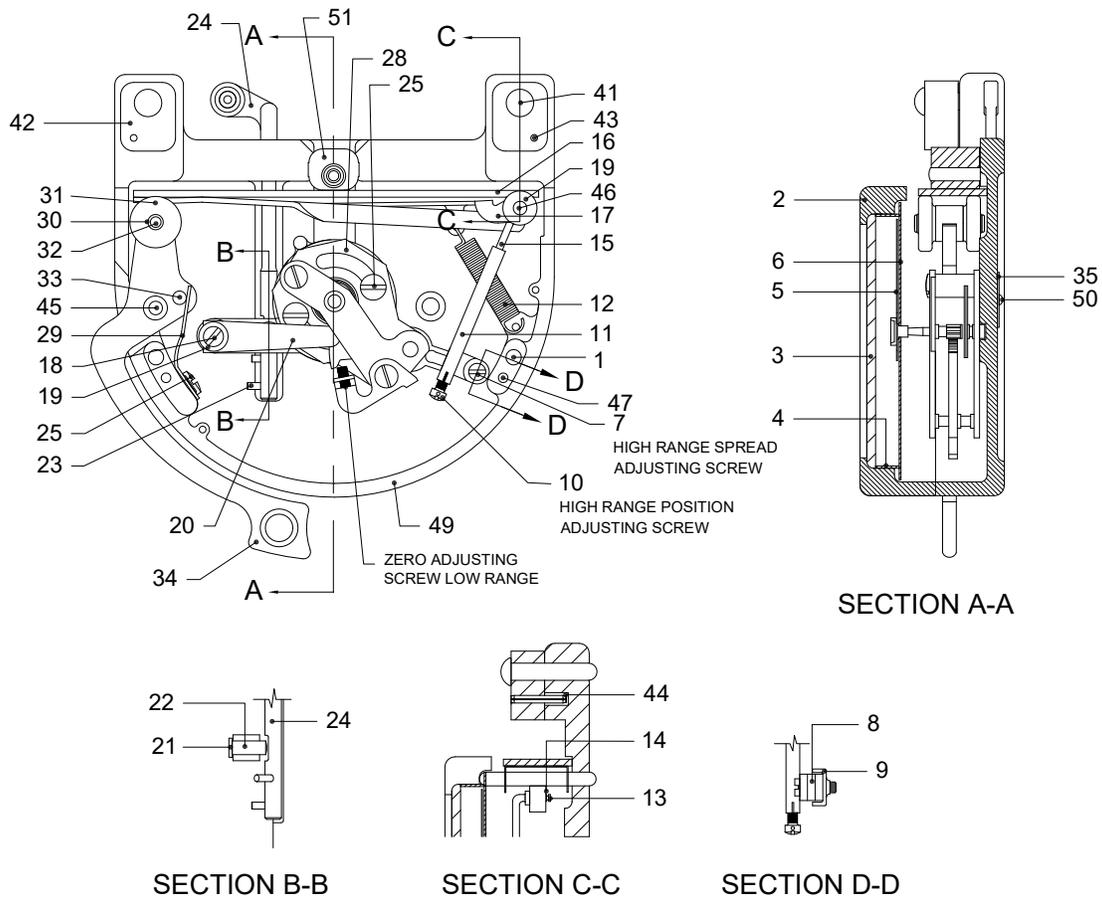

Figure 2-Detailed Description
- 2-3. **SECTORS AND RISERS-** The offset in the cable is affected by passing it between two hardened pivoting steel sectors (42 and 43) and a retractable hardened steel riser (51) located midway between the sectors. The riser rests on the Mainspring leaf assembly and is held in position by riser clip assembly (17). The pivoting sectors function as rollers of large diameters to span the depressions between the cable and pivot slightly caused by offsetting of the cable. The pivots are held in their outward position by sector springs (44) set in recesses in the case (49), causing the sectors to bear against sector pivot pins (41) which are a press fit into case (49). (See Figure 2)
- 2-4. **TRIGGER-** In order to pass a tight cable between the two sectors (42 and 43) and over the riser (51), the riser is retracted by lowering one end of which is attached to the Mainspring pivot pin (46). The free end of the Mainspring leaf assembly rests on two trigger rollers (31), which are attached to lever trigger assembly (34 See Figure 9) of the trigger assembly (30 thru 34). The lever assembly or trigger lever project from the side of the instrument case. Opening the lever assembly or trigger lever lowers one end of the Mainspring leaf assembly (16, See Figure 2) and the riser (51). Closing the lever assembly or trigger lever raises the Mainspring leaf assembly along with the riser, and therefore lever raises the Mainspring leaf assembly along with the riser, and therefore creates the offset in the cable. An angled flat trigger spring (29) is provided to give an over center snap action to the lever assembly or trigger lever. The drawing of the T5-2000 Series Tensiometer on the title page shows the standard lever assembly used only on this series. The T5-8000 series utilizing a mitten grip is also depicted on the title page.
- 2-5. **MAINSRING-** The reaction of the cable offset bows the Mainspring leaf assembly (16). An arm riveted to the fixed end of the Mainspring leaf assembly becomes tangent to the bowed Mainspring leaf assembly, producing a substantial movement to the opposite free end of the Mainspring leaf assembly.
- 2-6. **MOVEMENT AND LINKAGE-** The movement referred to in the preceding paragraph is transmitted by the linkage rod (15) and sleeve assembly (11) to the movement assembly (28). The linkage rod and sleeve assembly move as a unit, except when the pointer (5) is locked in position. The movement assembly is a self-contained brass unit comprised of a toothed segment meshing with a pinion gear on the pointed arbor. The outer end of the segment meshing with a pinion gear on the pointed arbor. The outer end of the segment consists of a slotted arm, to which the linkage rod (15) is attached. The purpose of the slot is to provide a means of adjusting the range of the Tensiometer. A hairspring is provided in the movement to eliminate backlash in the gears and to return the pointer to zero. An adjustable segment stop-screw (7) is provided to limit the travel of the segment, thus providing a more positive zero adjustment.
- 2-7. **BRAKE-** The brake lever rod (24) serves to lock the Tensiometer pointer in the event that dial (6) cannot be seen when taking a reading. The lock consists of two flat bronze springs (20 and 21). The longer brake spring (20) is set to normally bear against the segment of the movement, to hold it by friction when the brake lever is in the locked position. The shorter brake plunger spring (21) is to provide a snap action to the brake lever rod. Rotating the brake lever rod (24) lifts the two springs by means of brake plunger (22), which normally rides on a recessed flat in the brake lever rod.
- 2-8. **NON-OPERATING PARTS-** The foregoing covers the operating parts of the Tensiometer. The remaining parts are the case (49) on which all the operating parts and the dial (6) are mounted, and the cover (2) into which the glass (3) and bezel (4) are fitted.
KEY TO FIGURE 2